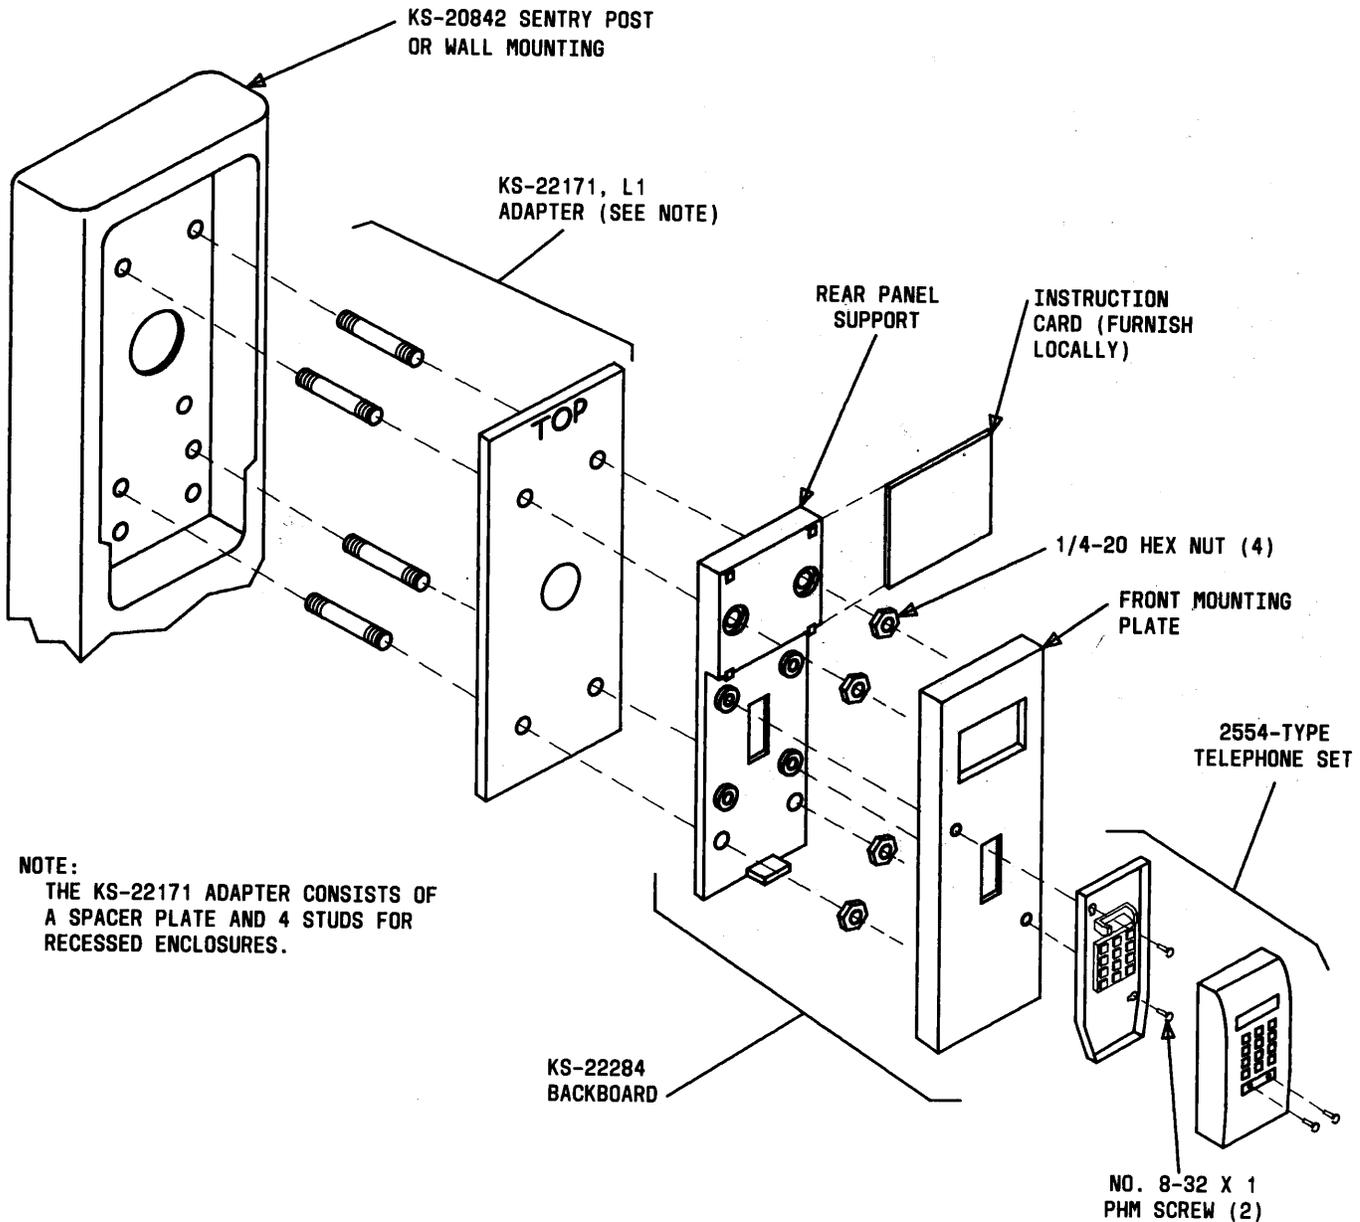

Fig. 10—KS-22288 Backboard and 2554-Type Telephone Set Used With Adapter
2.22 Any closure that will accept a 1-type coin telephone set will accept this backboard, however, when a recessed enclosure is encountered, such as the SENTRY mounting or wedge shelf, a KS-22171, List 1 adapter (Fig. 10) is required.
Note: For a recessed enclosure (SENTRY Mounting and Wedge Shelf) use a KS-22171, List 1 adapter (Fig. 10).
- 3.17 Place the front mounting panel over the rear panel support and install two No. 8-32 by 1 PHM screws furnished (Fig. 10). Do not tighten the two screws; they are also used to mount the base of the wall set.
D. 2554B-03 (MD), Modified 2554B-03 (MD), or Modified 2554BMP-03 Telephone Set